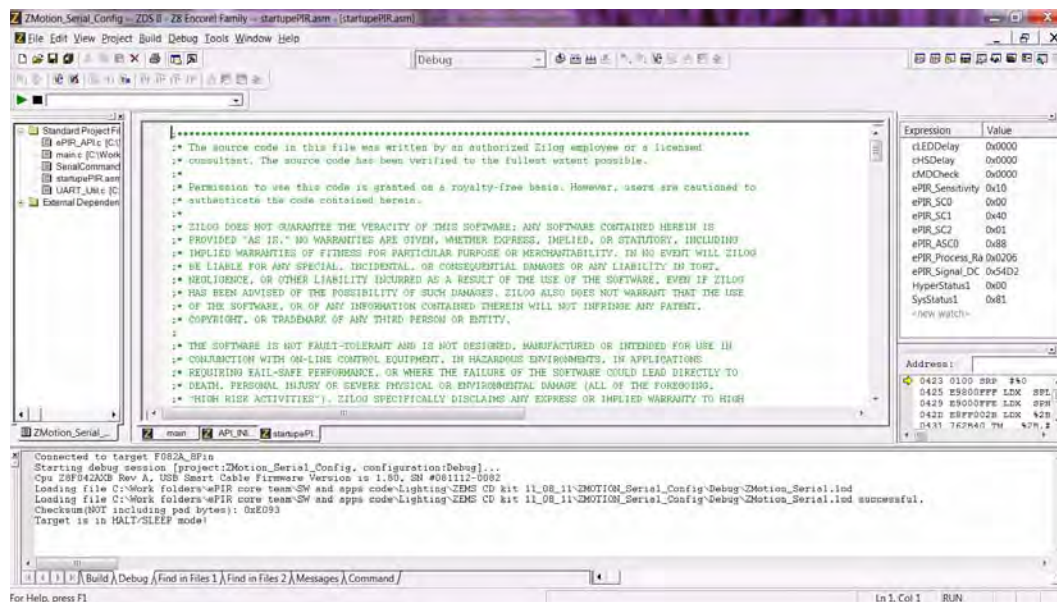

Figure 15. ZDSII's Debug Output Window for the ZMOTION_Serial_Config Project
7. An information notice may appear, indicating that the silicon is not the latest version. This occurrence is normal and is not an issue. Click **OK** to continue. You should see a message in the Debug Output Window indicating that the load was successful, as shown in Figure 15.